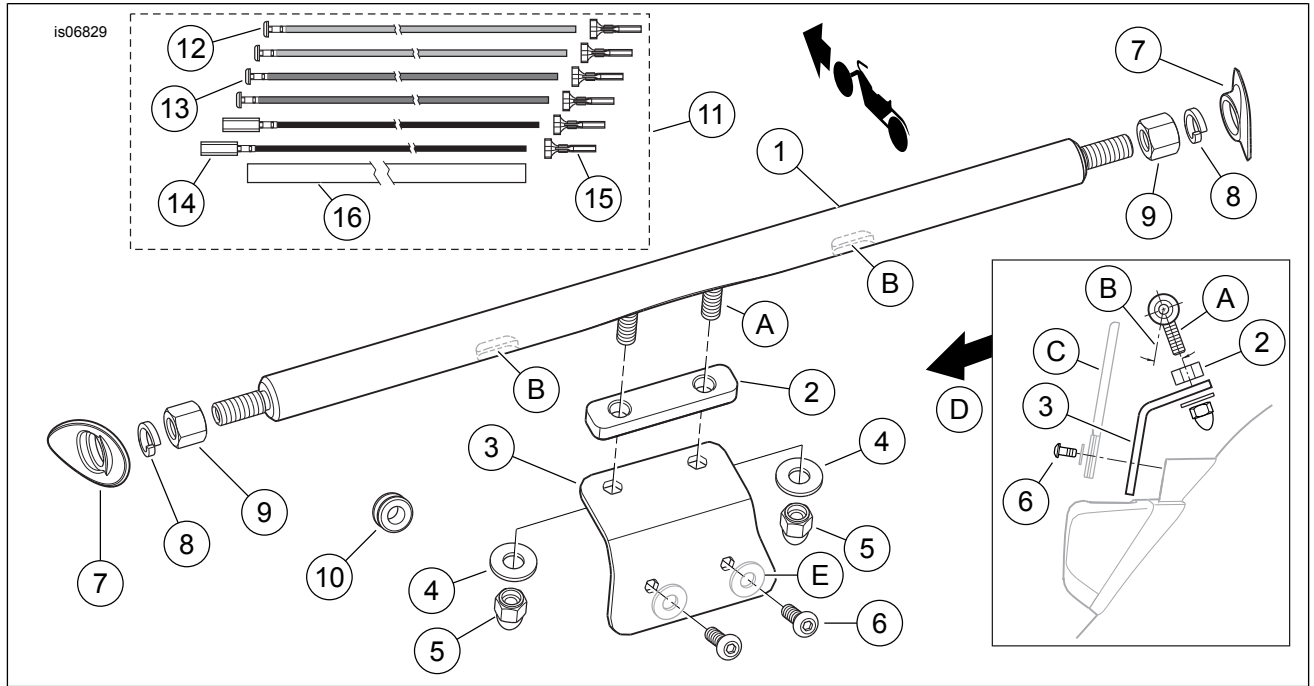

Figure 3. Service Parts, XL1200C Turn Signal Relocation Kit
See Figure 3. When assembling the light bar (1) to the spacer (2) and relocation mount (3), the correct orientation is with the wire-exit holes (B) angled **toward** the downward bend as shown in View (D), **NOT** away from it.
1. Remove the protective caps from the two threaded studs (A) on the light bar assembly.
3. Install washers (4) and acorn nuts (5) onto the studs, and tighten to 2.3–2.8 N·m (20–25 in-lbs).
1. See Figure 3. Loosely install a chrome jam nut (9) onto one of the threaded studs on the ends of the light bar. Place a lockwasher (8) onto the stud, against the jam nut. Place a chrome recess cover (7), in the orientation shown, onto the stud.
1. See Figure 3. Bring the light bar assembly to the tail lamp area, with the relocation mount (3) oriented toward the rear and down as shown in View (D).
2. Feed the two turn signal wire bundles through the new grommet (10) in the fender.
3. With the wires pulled nearly all the way through the grommet, align the light bar assembly bracket to the two threaded holes in the tail lamp base. Align the license plate bracket removed earlier to the holes, and loosely install with the **new** screws (6) from the kit and the original washers (E).
3. See Figure 3. Get four socket terminals (15) from the kit, and the two-way socket housings removed from the original wires.